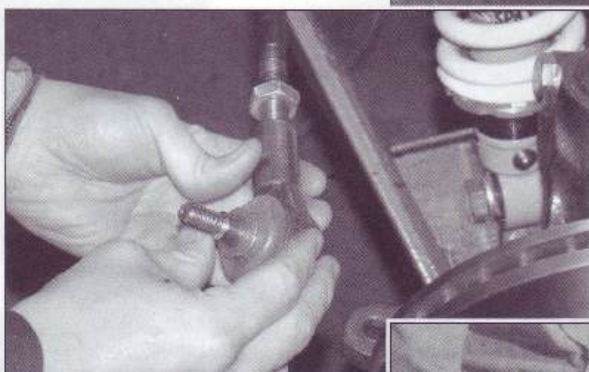

Fig.2q. Temporarily fitting rack and checking track rod taper fit (inset)
16. Temporarily fit steering rack to chassis (fig.2q.) with two M12x200mm bolts and push the track rod ends into the taper (fig.2q.inset) and check for snug fit. Do not fully tighten.